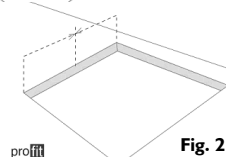

Fig. 2
- Measure the centre of the vertical sides of the cut out a shown in Fig. 2.